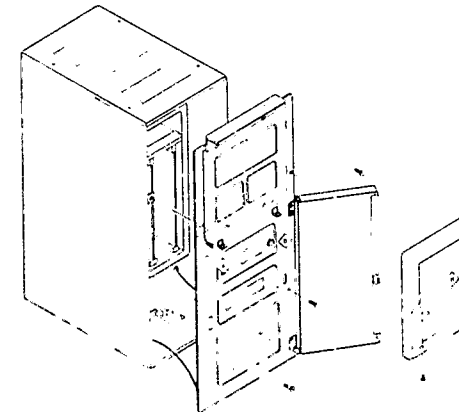

Figure 7-12. REMOVAL OF FRONT PANEL.
1. Primary and secondary control panels, controller, and other components in the control console are made accessible by removing six screws from the front panel, as shown in Figure 7-12.